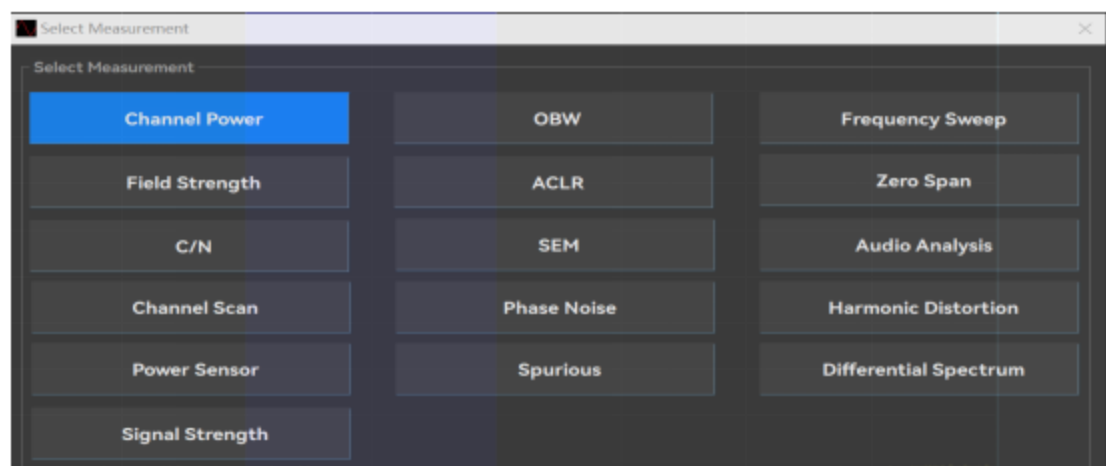

Figure 5.2 Select the measurement interface diagram
- Select [Channel Power] test function by [Measurement]. the interface is shown in Figure 5.2:
- Press [measurement] to select [bandwidth] test function, the interface displays as shown in Figure 5.2: